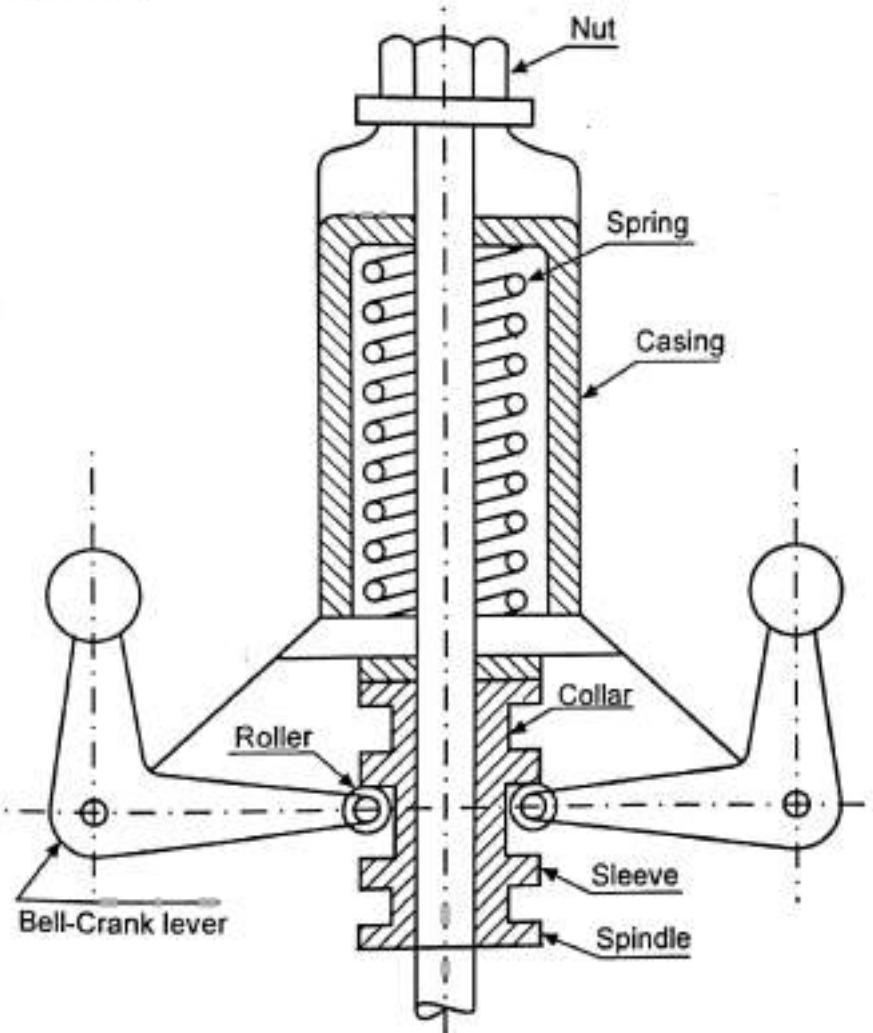

Fig. 5.7 : Hartnell Governor
- Fig. 5.7 shows a spring loaded Hartnell governor.